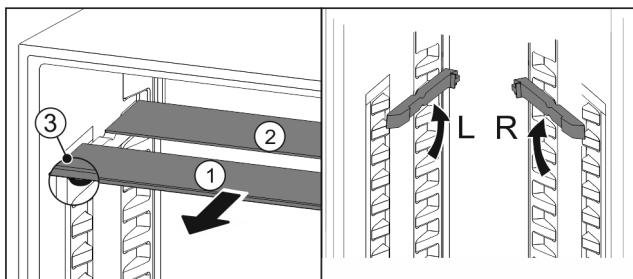

Fig. 93
- ▶ Pull the glass panels out Fig. 93 (1) from the front, one at a time.
- ▶ The glass panel Fig. 93 (1) and trim strip are at the front.
- ▶ The stops Fig. 93 (3) point down.